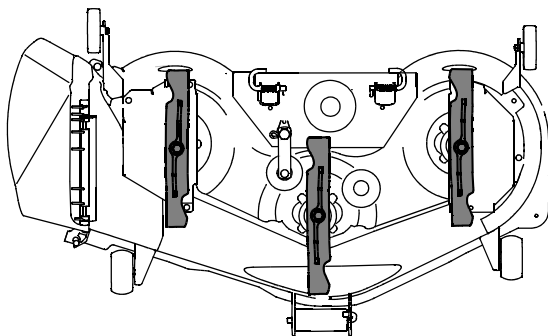

Figure 52
3. Position the mower blades so the ends of each blade point to the front and the rear of the tractor (See Figure 52).